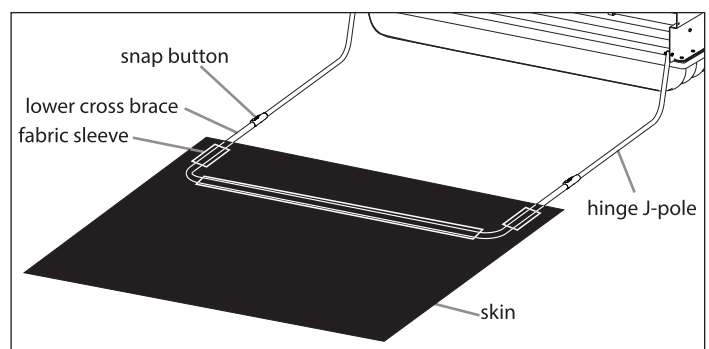

FIGURE 10
15. Unfold the skin and locate the Eskimo® logo near the zippered door, which is in the front of the sled. With the outer part of the shelter skin lying facing down, locate the (3) pole sleeves on the bottom front, right side, and left side of the shelter skin. Slide the Lower Cross Brace (68129) through the (3) pole sleeves. **SEE FIGURE 10**
16. Insert a hinge "J-Pole" from each hinge (68141/68142) into the assembled lower frame (68129) with the skin attached to the frame. Push snap button inward to allow the Lower Cross Brace to slide over the (J-Poles) attached to the hinges. **SEE FIGURE 10**